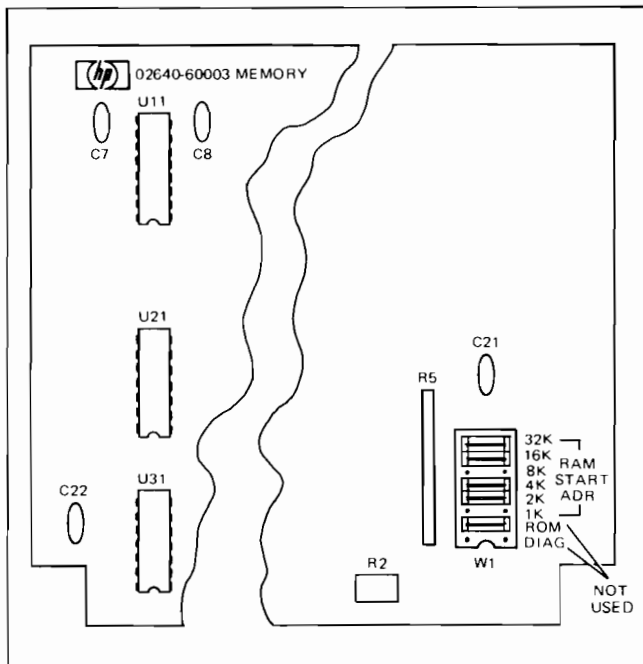

Figure 1-6. Control Store PCA Jumper Socket Location
- c. Using figures 1-6, 1-7, and 1-8 as a guide, locate memory jumpers on Control Store, 2K Memory, and/or 4K Memory PCA's.